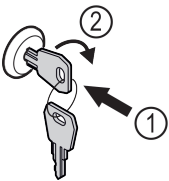

Fig. 92 Example illustration
- ▶ Insert key Fig. 92 (1).
- ▶ Turn key clockwise by 90° Fig. 92 (2).